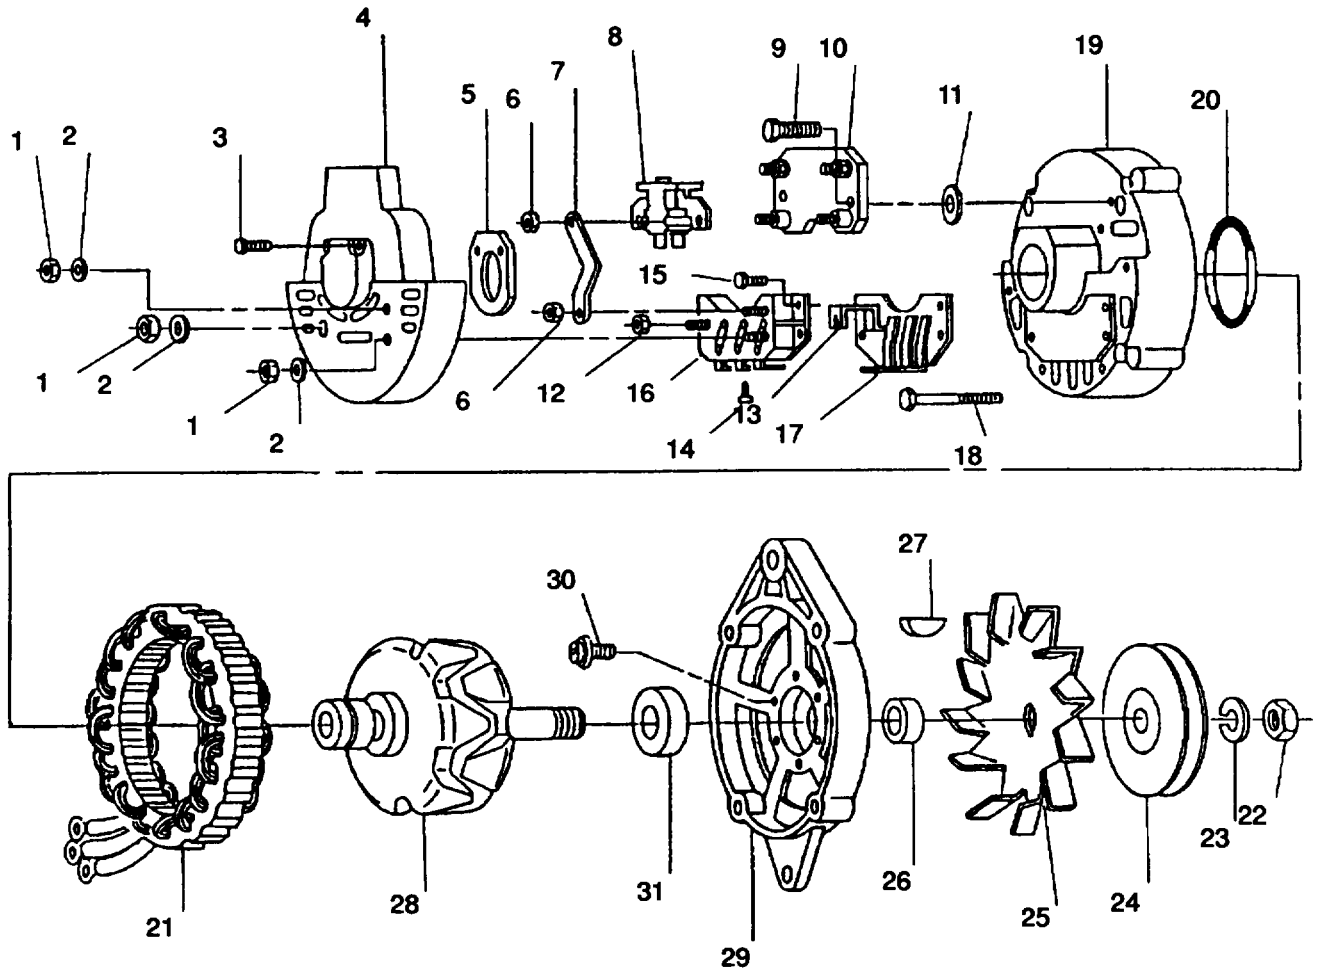

Figure 4-7. Alternator Assembly
- a. Remove terminal nuts (1, Figure 4-7), washers (2), bolts (3), back cover (4), and gasket (5) from rear housing (19).
- b. Remove nuts (6), strap (7), and brush assembly (8) from voltage regulator (10).
- c. Remove bolts (9), insulating washers (11), and voltage regulator (10) from rear housing (19).
- d. Remove nut (12) and straighten strap (13).
- e. Remove bolts (14), tag and remove stator (21) leads from diode-trio (16).
- f. Remove bolts (15), diode-trio (16), and rectifier bridge (17) from rear housing (19).
- g. Match mark front and rear housings, and remove thru-bolts (18).
- i. Remove rear housing (19, Figure 4-7) and stator (21) from front housing (29).
- a. Using press, install front bearing (31, Figure 4-7) in front housing (29).
- b. Install front bearing retaining screws (30). Torque screws 25 to 35 in-lbs (2.8 to 3.9 Nm).
- d. Position pulley spacer (26, Figure 4-7), woodruff key (27), fan (25), and pulley (24) on rotor assembly (28) shaft.
- e. Install lockwasher (23) and nut (22) on rotor assembly (28) shaft. Torque nut 35 to 50 ft-lbs (47 to 68 Nm).
- f. Position stator (21) in front housing (29) with stator leads at top and notches in lamination aligned with bolt holes.
- g. If removed, install retainer (20) in rear housing (19).
- h. Position rear housing (19) over slip rings of rotor assembly (28) with front and rear housing bolt holes aligned, and stator leads extending through openings at top of rear housing (19).
- i. Install thru-bolts (18) and tighten evenly. Torque bolts 50 to 60 in-lbs (5.6 to 6.8 Nm).
- j. If necessary, remove thru-bolts (18) and rotate rear housing (19) and stator (21) to align housings as match marked on disassembly. Reinstall bolts and torque evenly 50 to 60 in-lbs (5.6 to 6.8 Nm).
- k. Insert strap (13) of rectifier bridge (17) through slot in diode-trio (16) body. Bend strap (13) over B+ terminal and secure with cone nut (12).
- l. Apply thin film of heat sink compound (Item 7, Appendix C) to back of rectifier bridge (17) and mating area of rear housing (19).
- m. Install diode-trio (16) and rectifier bridge (17) on rear housing (19) with bolts (15) and connect stator leads with bolts (14). Remove tags.
- n. Install voltage regulator (10) to rear housing (19) with insulating washers (11) and bolts (9).